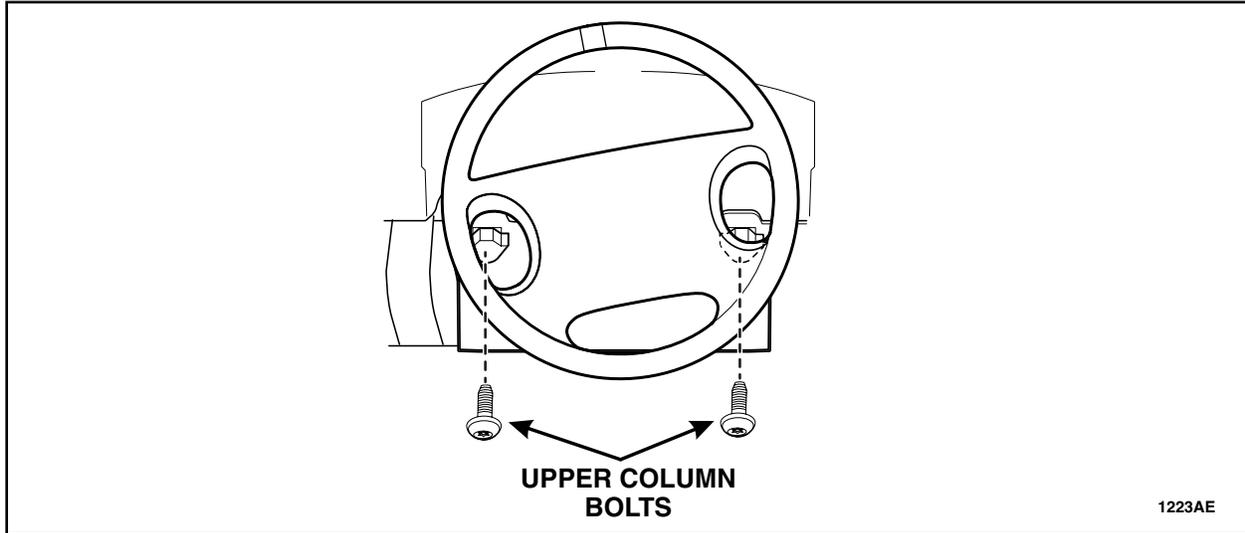

FIGURE 8
12. Remove and discard the two upper column bolts. See Figure 8.
34. Install two (2) new upper column bolts. See Figure 8.